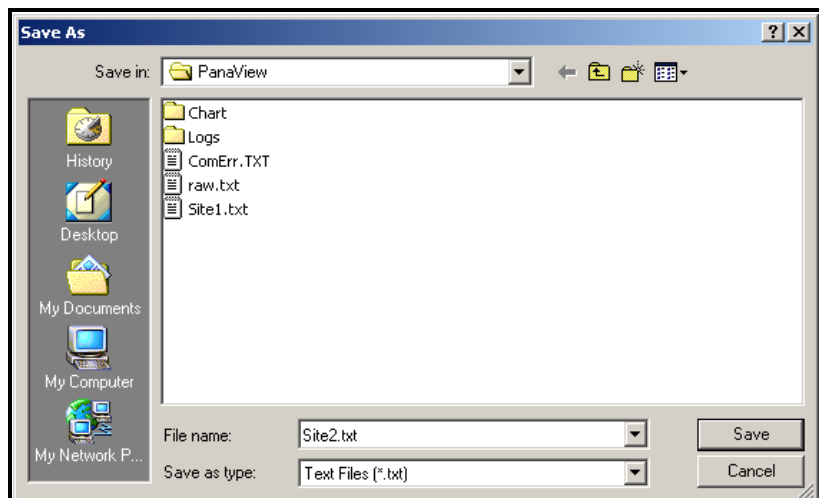

Figure F-13: *Save As Window*
To *save* the raw signal, click *Save*. A window opens similar to Figure F-13 below. Enter the desired name, and click *Save* to save the signal as a text file.
2. Click *Save Site to PC*. A window opens similar to Figure F-13 on page F-11.